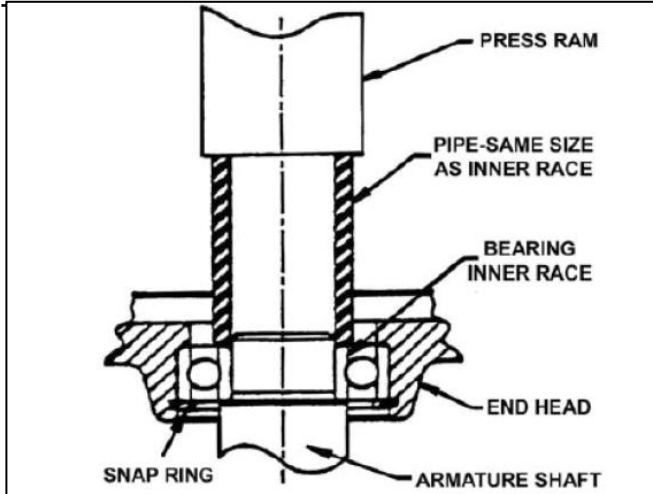
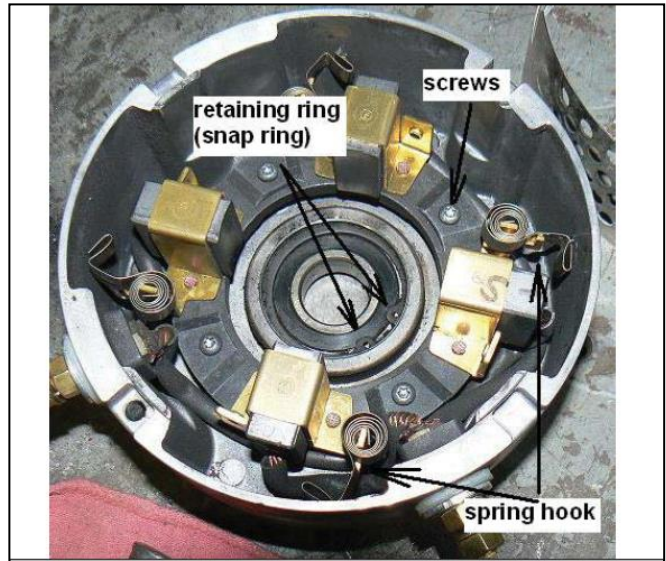

Figure 9-15
Figure 9-16
1. Always use a new bearing when reassembling a motor. Press bearing into motor head. Press only against the outer race. See Figure 9-15. Install snap ring to retain bearing. Figure 9-16.
3. Position brush holder into motor head as shown in Figure 9-16. Make sure that the terminals for the brushes are loose and free.
6. Press motor head and bearing onto armature, pressing only against inner race of the bearing. See Figure 9-15.